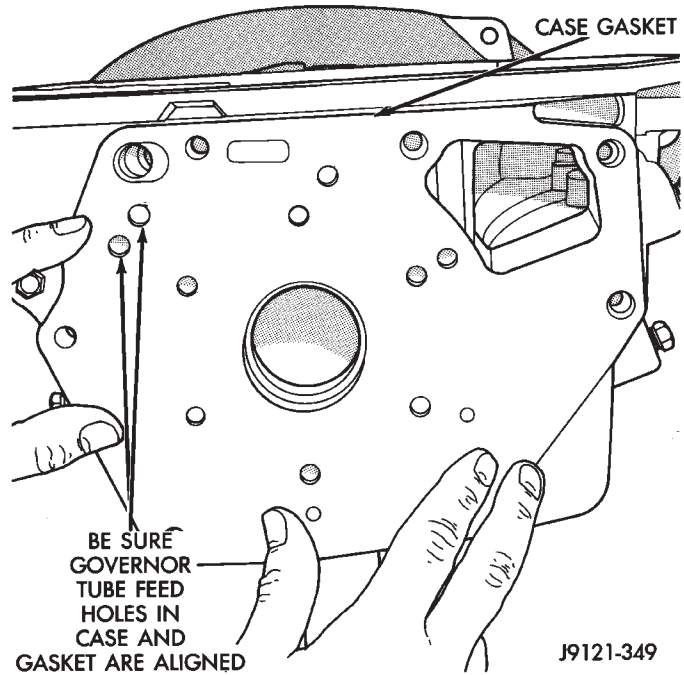

Fig. 132 Installing Case Gasket—46RH
(5) Install new gasket at rear of transmission case. Use petroleum jelly to hold gasket in place. **Be sure to align governor feed holes in gasket with feed passages in case (Fig. 132).** Install gasket before